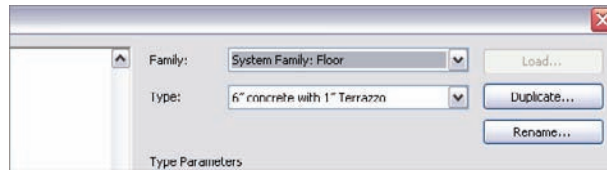

FIGURE 10.56 You must add a floor at the Level 3 floor plan for the stairs to have a landing.
4. Select the 6" concrete with 1" Terrazzo floor system from the Type Selector, as shown in Figure 10.56.